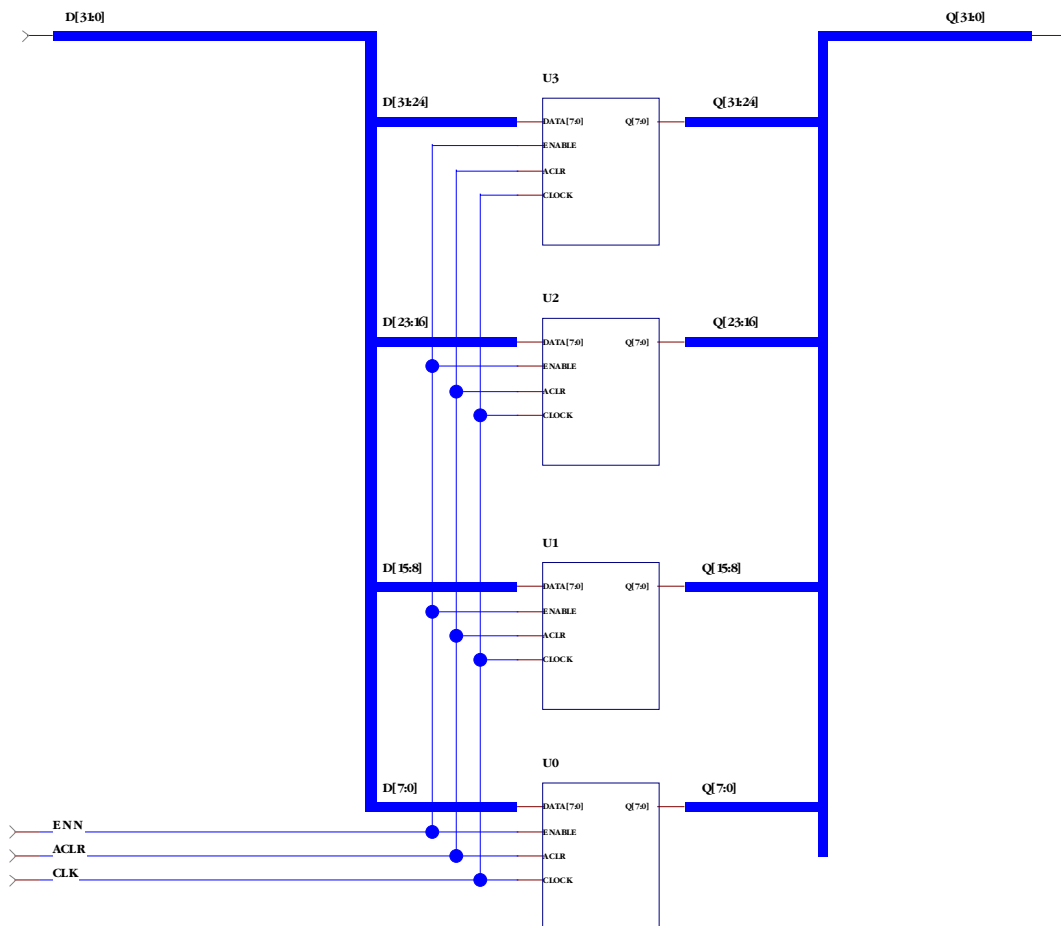

Figure 12 - Completed reg32 schematic
The 32 bit register will be crafted as a hierarchical schematic using the reg8 macro that was created using ACTgen. The register has an active low asynchronous reset and an active low synchronous enable. The completed schematic is shown in Figure 12.
5. Make the necessary wire and bus connections to complete the schematic as shown in Figure 12.
7. Repeat step 6 to add the Hierarchical Output connector. Select **out.1** from the Symbol list to add the output connectors and position to connect to the output bus as shown in Figure 12.